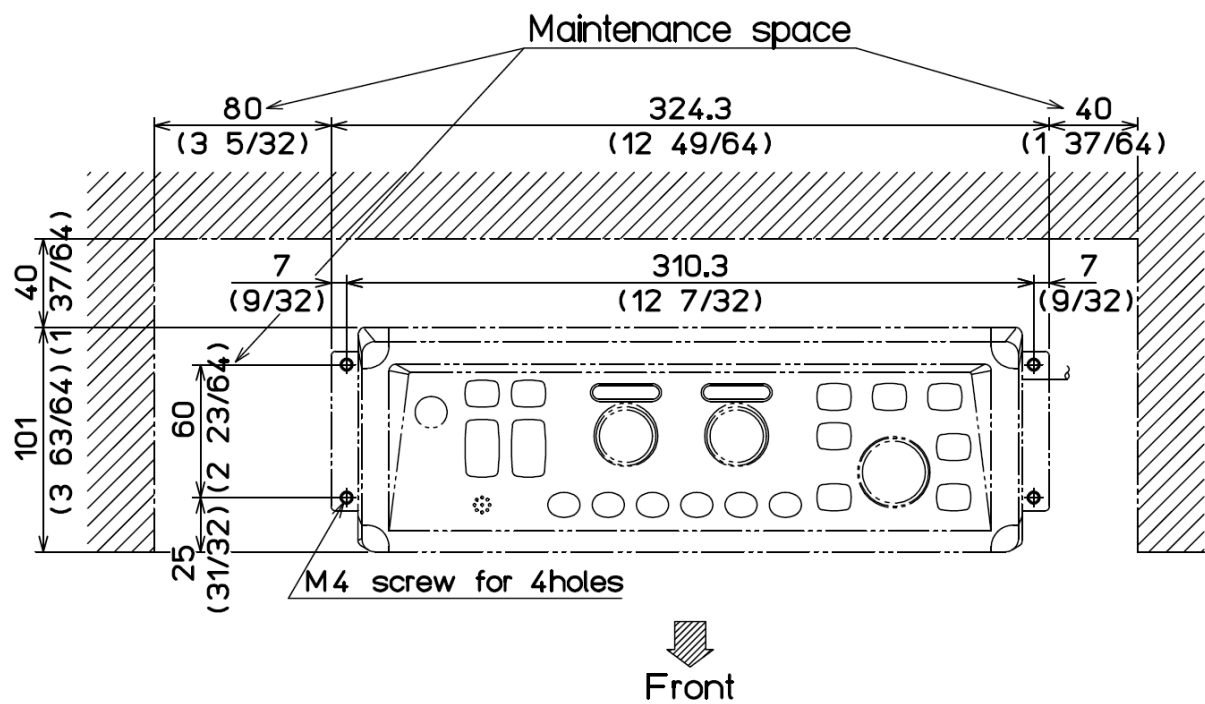

Fig.1.12 Maintenance space of desk-top installation
- (1) Decide the location to install the Operation unit and keep the space for the maintenance works as shown in Fig. 1.12.
- (2) Mark the position where installation plinth is installed. (See Fig. 1.12)
- (3) Remove 4 plastic corner guard caps of the Operation unit (These can be easily pulled out upwards)
- (4) Fix the clamps to the Operation unit with the screw of 4M (4mm). Install the corner guard caps removed in step (3).
- (5) Confirm that the clamps matches the marking position. If not matches, correct the marking position
- (6) Install the clamps in the installing location (4 holes) and fix it with 4 tapping screws (4mm) (M4 or pan-head). (Prepare 4 mm screws suitable for thickness of installing location.)